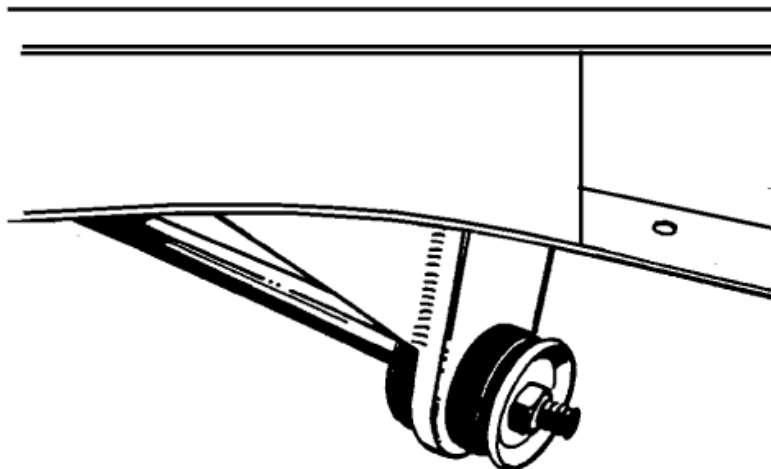

Figure 7- Strut Rod Install
9. Install the strut rod onto the control arm. Now, assemble onto the strut rod the large rubber bushings, including the cupped washers, and the strut mount plate. Be certain to fully tighten the nut on the strut rod to its fully seated position. See **Figure 7**. There are two rubber bushing sets available; the standard replacement and the improved set. We recommend the improved set, as it provides more stability to the front suspension. The Pinto and Mustang strut rods are different lengths. We recommend the use of Pinto strut rods, as they are bent less than the Mustang strut rods. You will find that with either strut rod the strut rod plate does not line up with the bottom of the frame rail. The strut rod must be heated in the elbow area and bent outward. The rod is bent outward until the strut mounting plate lines up to the frame rail. You will find that because the Pinto strut rod is initially bent less and requires much less bending. The strut rod will act as an alignment fixture while you tack weld the mount plate in place, then tack weld the gusset in place. Remove the strut rod, bushings, and arm, and finish welding to the frame and each other.